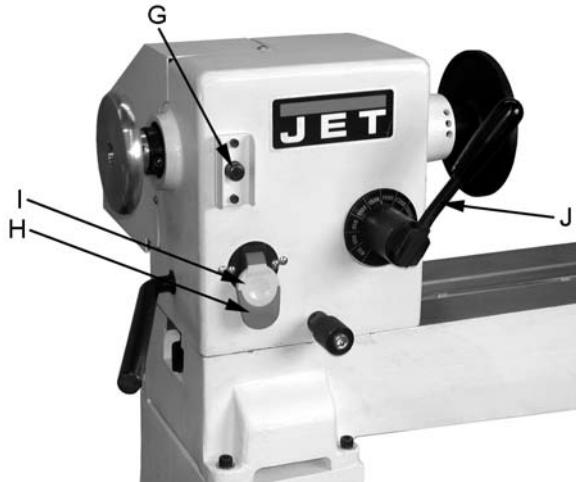

Figure 5
- G. **Headstock Spindle Lock:** (G, Fig. 5)
- H. **Headstock On/Off Switch:** (H, Fig.5)
- I. **Headstock On/Off Switch Key:** (I, Fig. 5)
- J. **Headstock Speed Selector:** (J, Fig. 5)